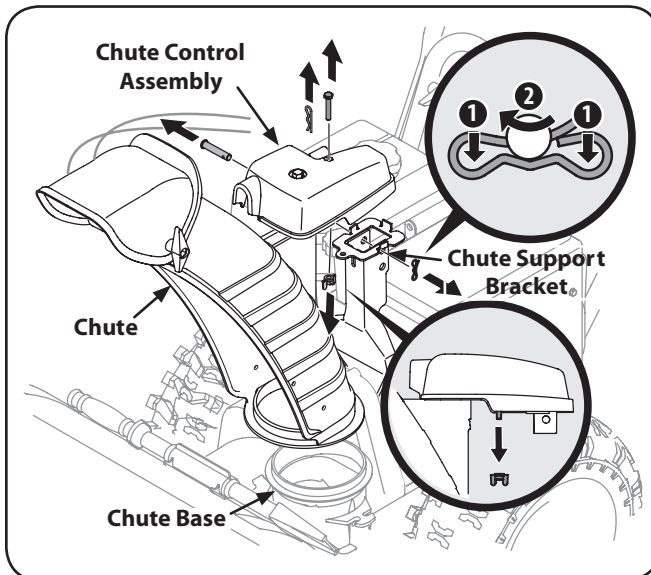

Figure 3-3
1. Remove cotter pin, wing nut and hex screw from chute control assembly. Remove clevis pin and bow-tie cotter pin from chute support bracket. See Figure 3-3.